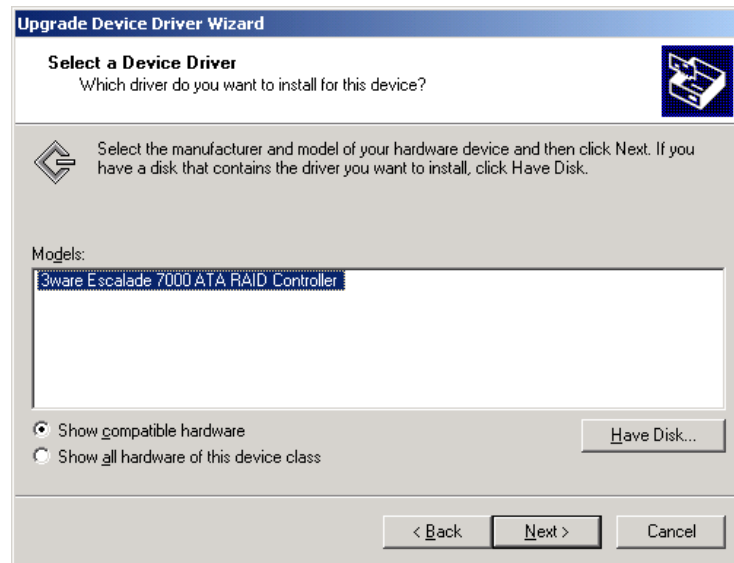

Figure 28. Select a Device Driver
- 2 When the **Select a Device Driver** dialog appears (see Figure 28), click on the **Have Disk...** button.